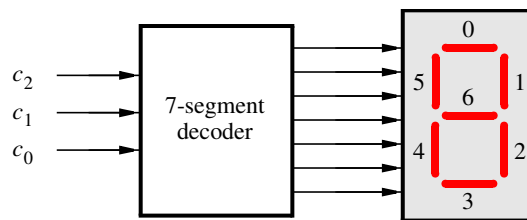

Figure 6. A 7-segment decoder.
Figure 6 shows a 7-segment decoder module that has the three-bit input $c_2c_1c_0$. This decoder produces seven outputs that are used to display a character on a 7-segment display. Table 1 lists the characters that should be displayed for each valuation of $c_2c_1c_0$. To keep the design simple, only six characters are included in the table (plus the 'blank' character, which is selected for codes 110 – 111).
2. Create a Verilog module for the 7-segment decoder. Connect the $c_2c_1c_0$ inputs to switches SW_{2-0} , and connect the outputs of the decoder to the $HEX0$ display on the DE2 board. The segments in this display are called $HEX0_0$, $HEX0_1$, ..., $HEX0_6$, corresponding to Figure 6. You should declare the 7-bit port